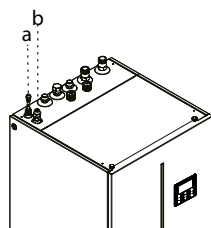

Fig. 5-2
- If the indoor unit is matched with outdoor unit (4/6kW), the transfer 9.52-6.35 (Refer to the table in Page 8) should be mounted on the refrigerant liquid connection of indoor unit (Refer to Fig.5-2); The transfer is not used in other types of outdoor unit (8/10/12/14/16kW).